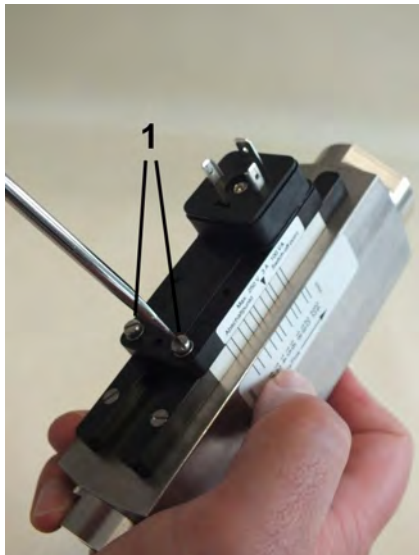

Fig. 35: Loosen the set screws
1. ➤ Loosen the set screws of the switch contact (Fig. 35/1) using a flat-bladed screwdriver.
3. ➤ Tighten the set screws of the switch contact (Fig. 35/1) using a flat-bladed screwdriver. When doing so, observe the correct tightening torque of the screws.